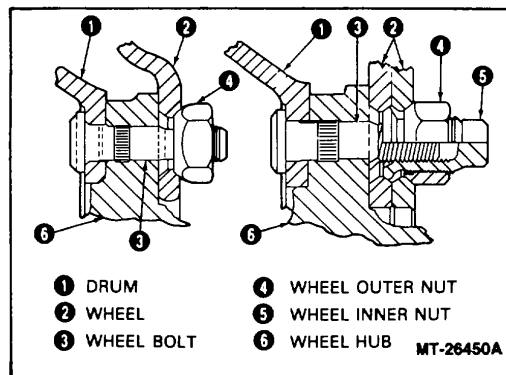

Figure 3. - Inboard Mounted Drum
1. Inboard mounted drum will be secured to hub on brake group side of hub (Figure 3). Inboard mounted drums can be used with cast or disc wheels.